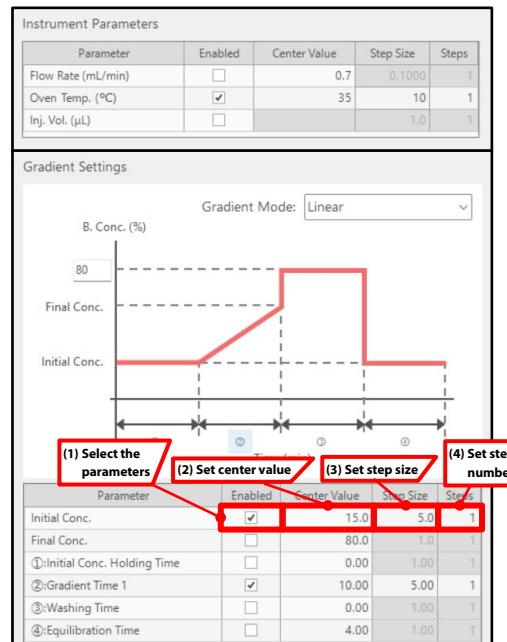
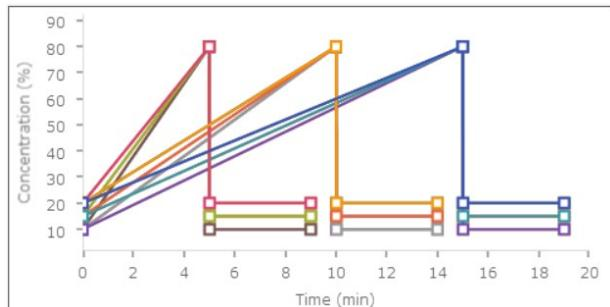

Fig. 2 Analysis Schedule Creation Screen
Fig. 3 Variation of Gradient Conditions
LabSolutions MD enables error-free automatic generation of analysis schedules (steps (1) to (4) in Fig. 2) under a comprehensive set of conditions. For example, when varying the initial gradient concentration (highlighted in red in Fig. 2), the input center value of 15% is automatically adjusted by ± 1 step at 5% intervals, resulting in a schedule covering 10%, 15%, and 20%. In this article, an analysis schedule was automatically generated to explore separation conditions comprehensively by varying the initial gradient concentration (10%, 15%, 20% : 3 levels, Fig. 3), gradient time (5, 10, 15 min : 3 levels, Fig. 3), and column oven temperature (25, 35, 45 °C : 3 levels).